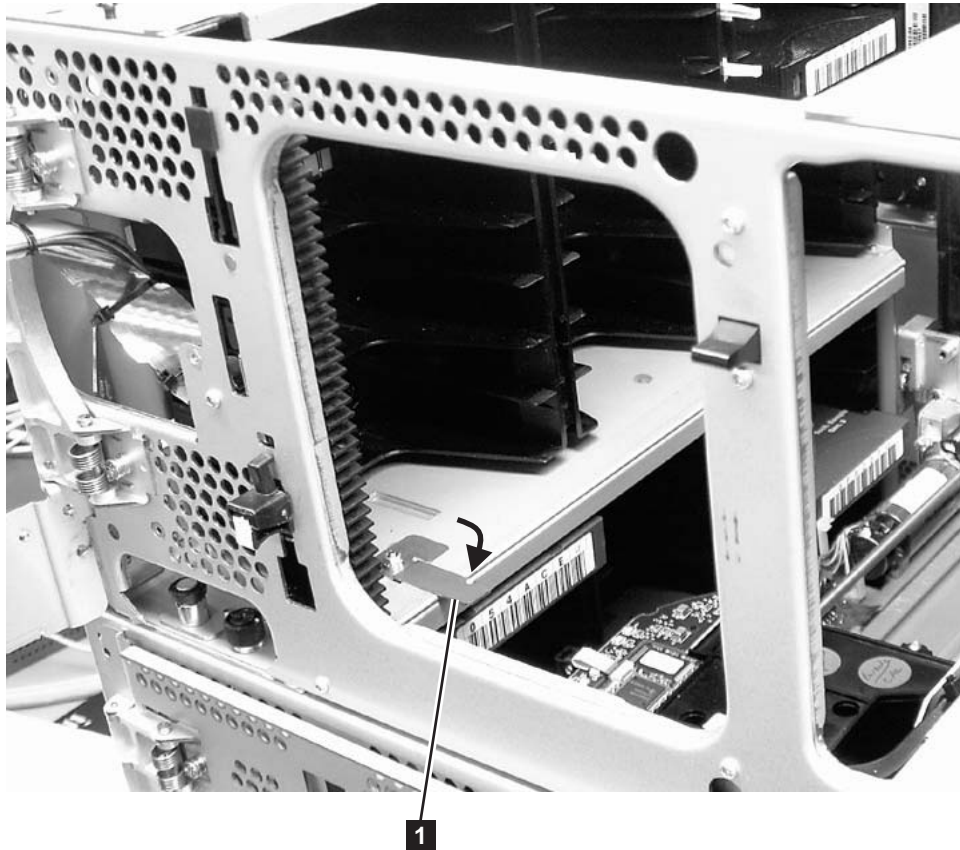

Figure 4-8. Picker locking mechanism
1. Engage the picker assembly lock mechanism (**1** in Figure 4-8 on page 4-8). You might need to lift the picker assembly to fully engage the lock mechanism.